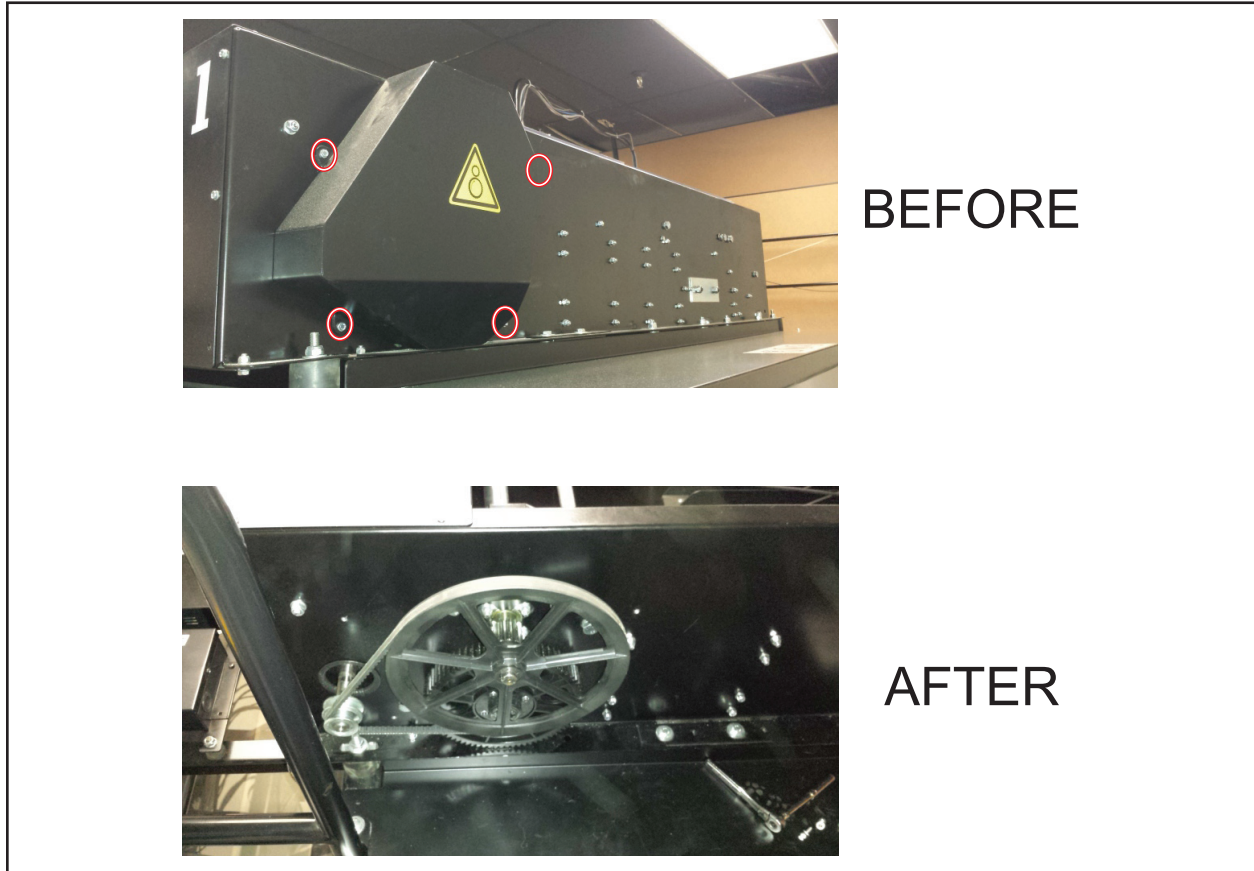

Figure 2
32. Reinstall the cover for the drive pulley. Refer to *Figure 2*.